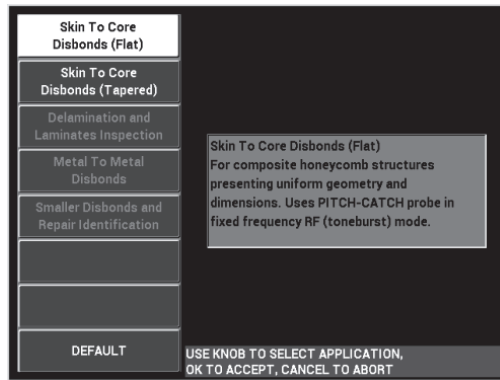

Figure 6-2 The Skin To Core Disbonds (Flat) application
3. Select the **Skin to Core Disbonds (Flat)** application, and then press  to accept (see Figure 6-2 on page 132).